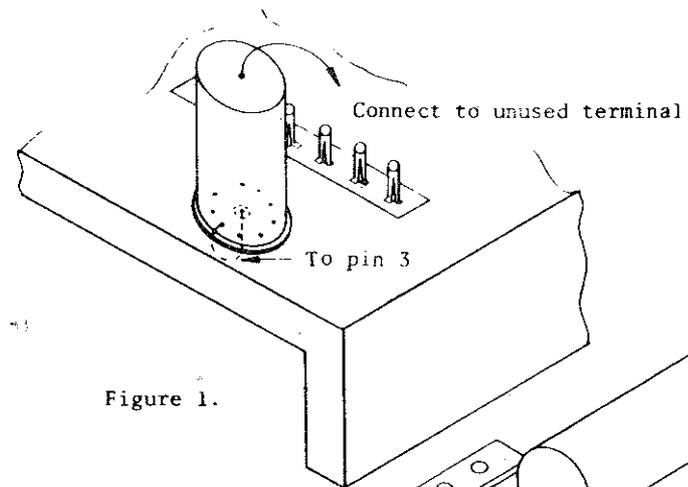
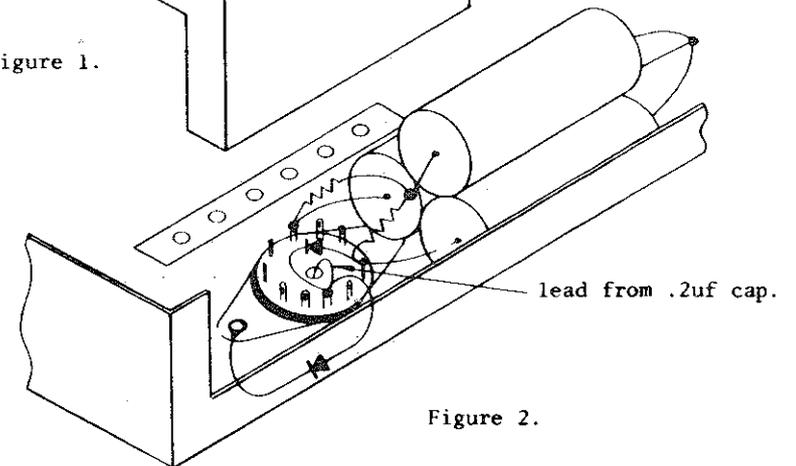

Figure 1.
Figure 2.
1. Remove the 1V2(V8) and 6CA4(7) tubes and discard.
4. Insert one lead from the 24G211 (.2ufd. @1700DC) into the opening of the 1V2 socket from the top of the chassis as shown in figure 1. Connect this lead to pin 3 of the socket as shown in figure 2.